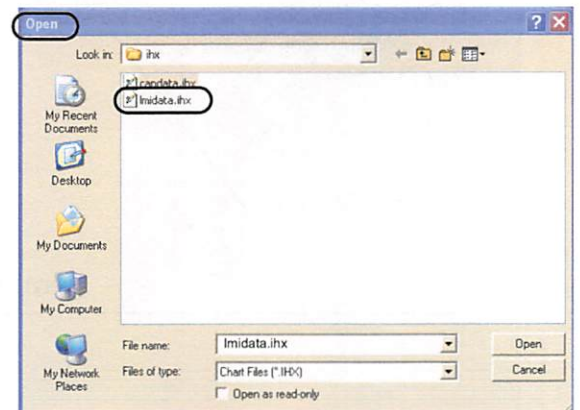

FIGURE 17
14. A screen will drop down called **Open** (see Figure 17).
15. Locate and click **Imidata.ihx** icon to select file (see Figure 17). The hex file will now download the capacity charts. The screen will display **Process Complete/Timed Out** when files are fully loaded and file closes automatically.